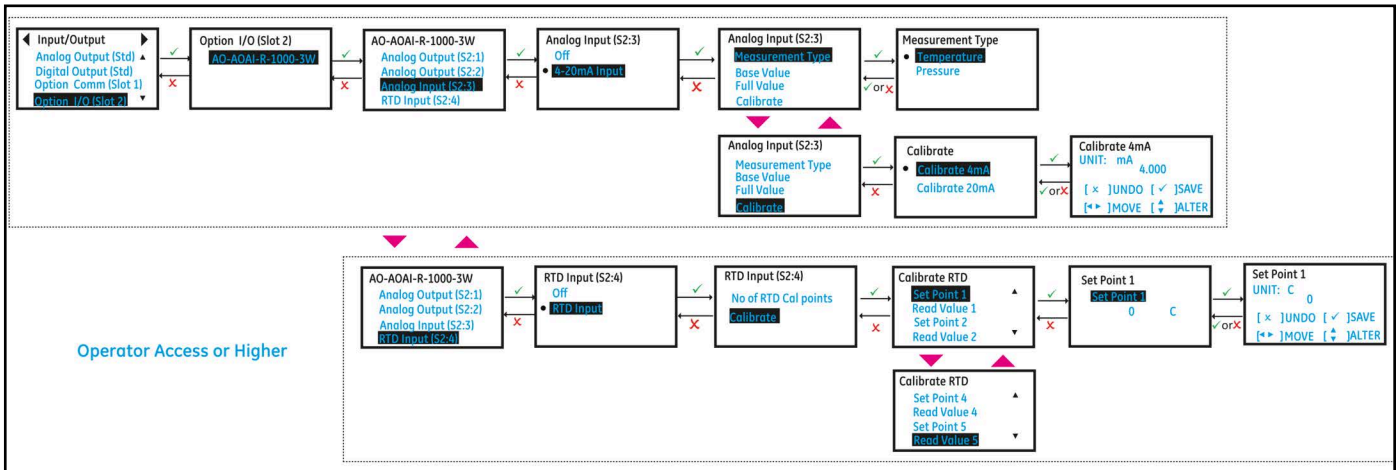

Figure 39: Setting up Option I/O Analog Input/RTD Input
4. If you are connecting an Analog Input, choose **[4-20mA]** option. *Figure 39* below, shows the options available.
2. Use steps as in section "Log-in and Primary Pages" to navigate to the *Input/Output* settings page. Refer to *Figure 39* above, highlight **[Option I/O (Slot 2)]** and press **[ENTER]**.